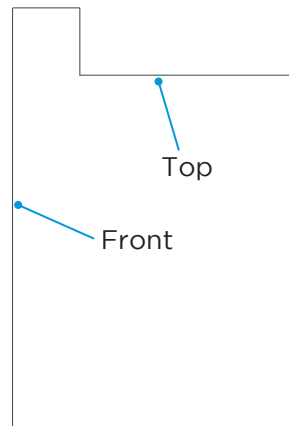

Fig. 17
- C. Insert Side Arm Foam into Side Arm Hinge until the top front of the Side Arm is flush with the top of the hinge. Fig. 17 shows the proper orientation of the foam.